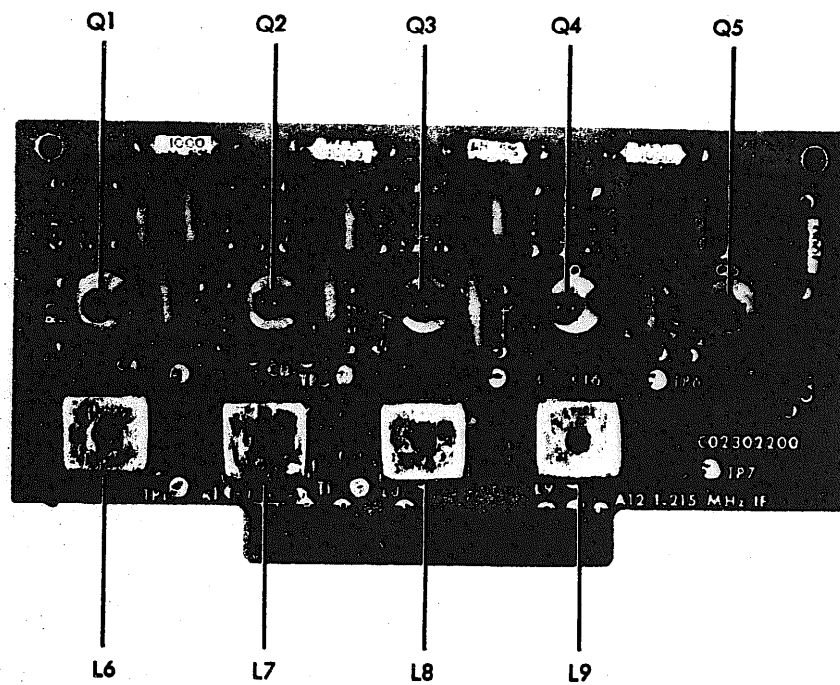

Figure 4-9. Module A12, 1.215 MHz IF C02302200
(1) Adjust T1 and T2 for maximum indication.
10. 1.215 MHz IF, module A12 (Figure 4-9)